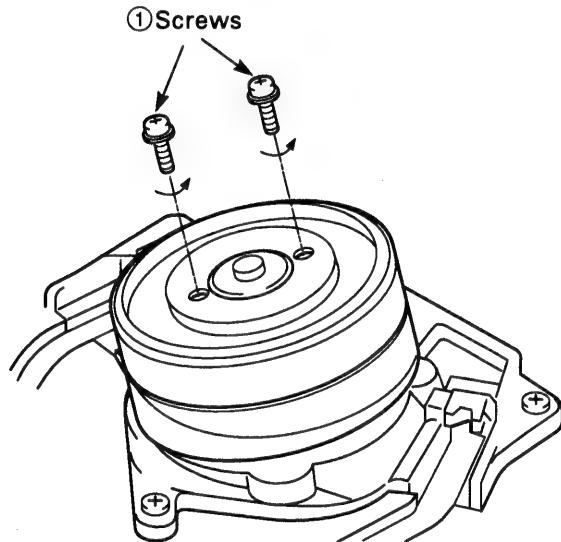

Fig.3-5-1
(See Figs. 3-5-1, 3-5-2, 3-5-3,3-5-4)
- 1) Remove the two screws ① (See Fig.3-5-1).